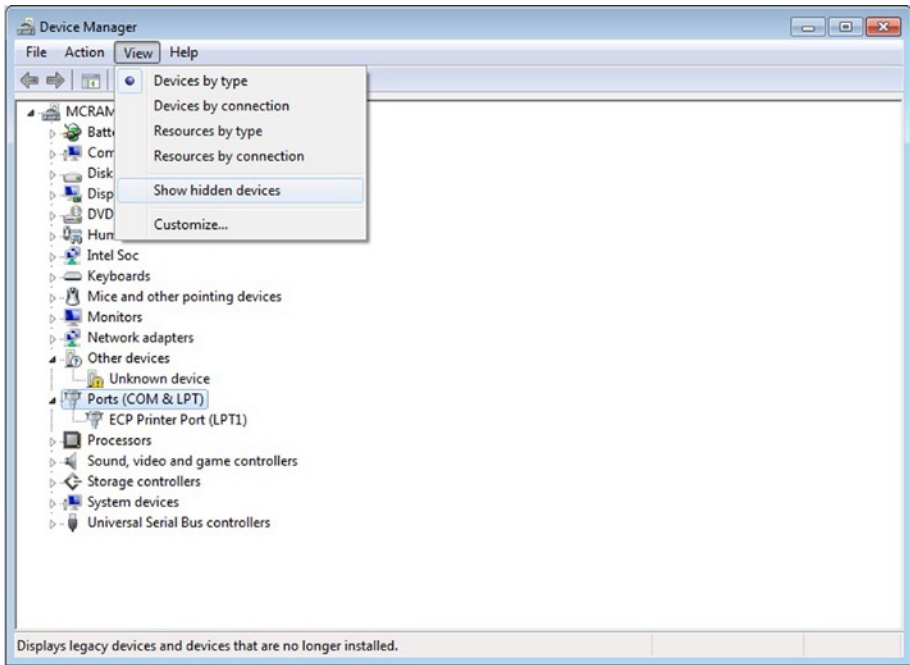

Figure 3-20. Enabling the “Show Hidden Devices” option
3. The Device Manager will show up. Choose View ► Show Hidden Devices. See Figure 3-20.